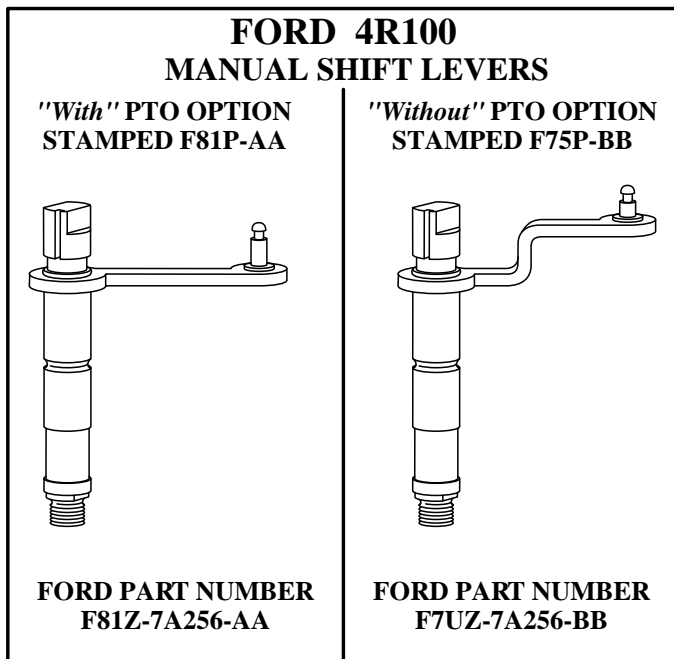

Figure 198
1. The manual shift levers are also model sensitive as shown in Figure 198. Ensure that you have the proper manual shift lever for the model that you are building.